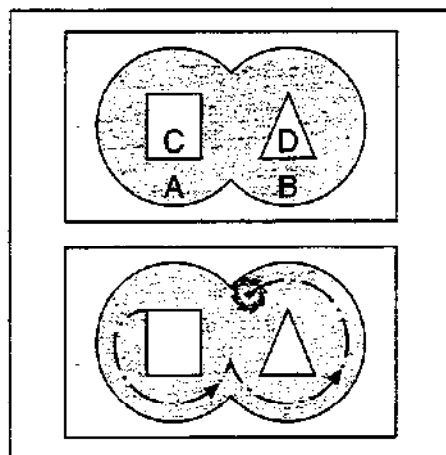

Fig. 8.39: Cutter path for ROUGH-OUT. A and B are pockets, C and D are islands
- First the island contours (C and D in figure 8.39) are rough-milled until the pocket contour (A, B) is approached.